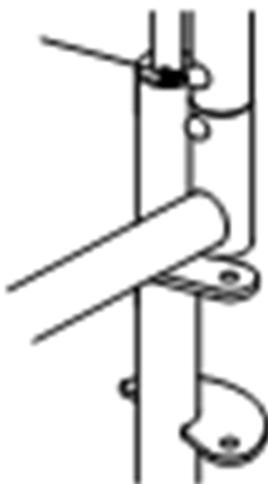

Figure 6
- If your wheelchair is fitted with a removable armrest frame, press down on the steel ball of the armrest frame when disassembling to release the steel ball from the hole in the handrail, and the armrest frame can be removed; insert the armrest frame when installing on the chassis, the steel ball may be jammed in the hole in the armrest frame. (See figure 6)